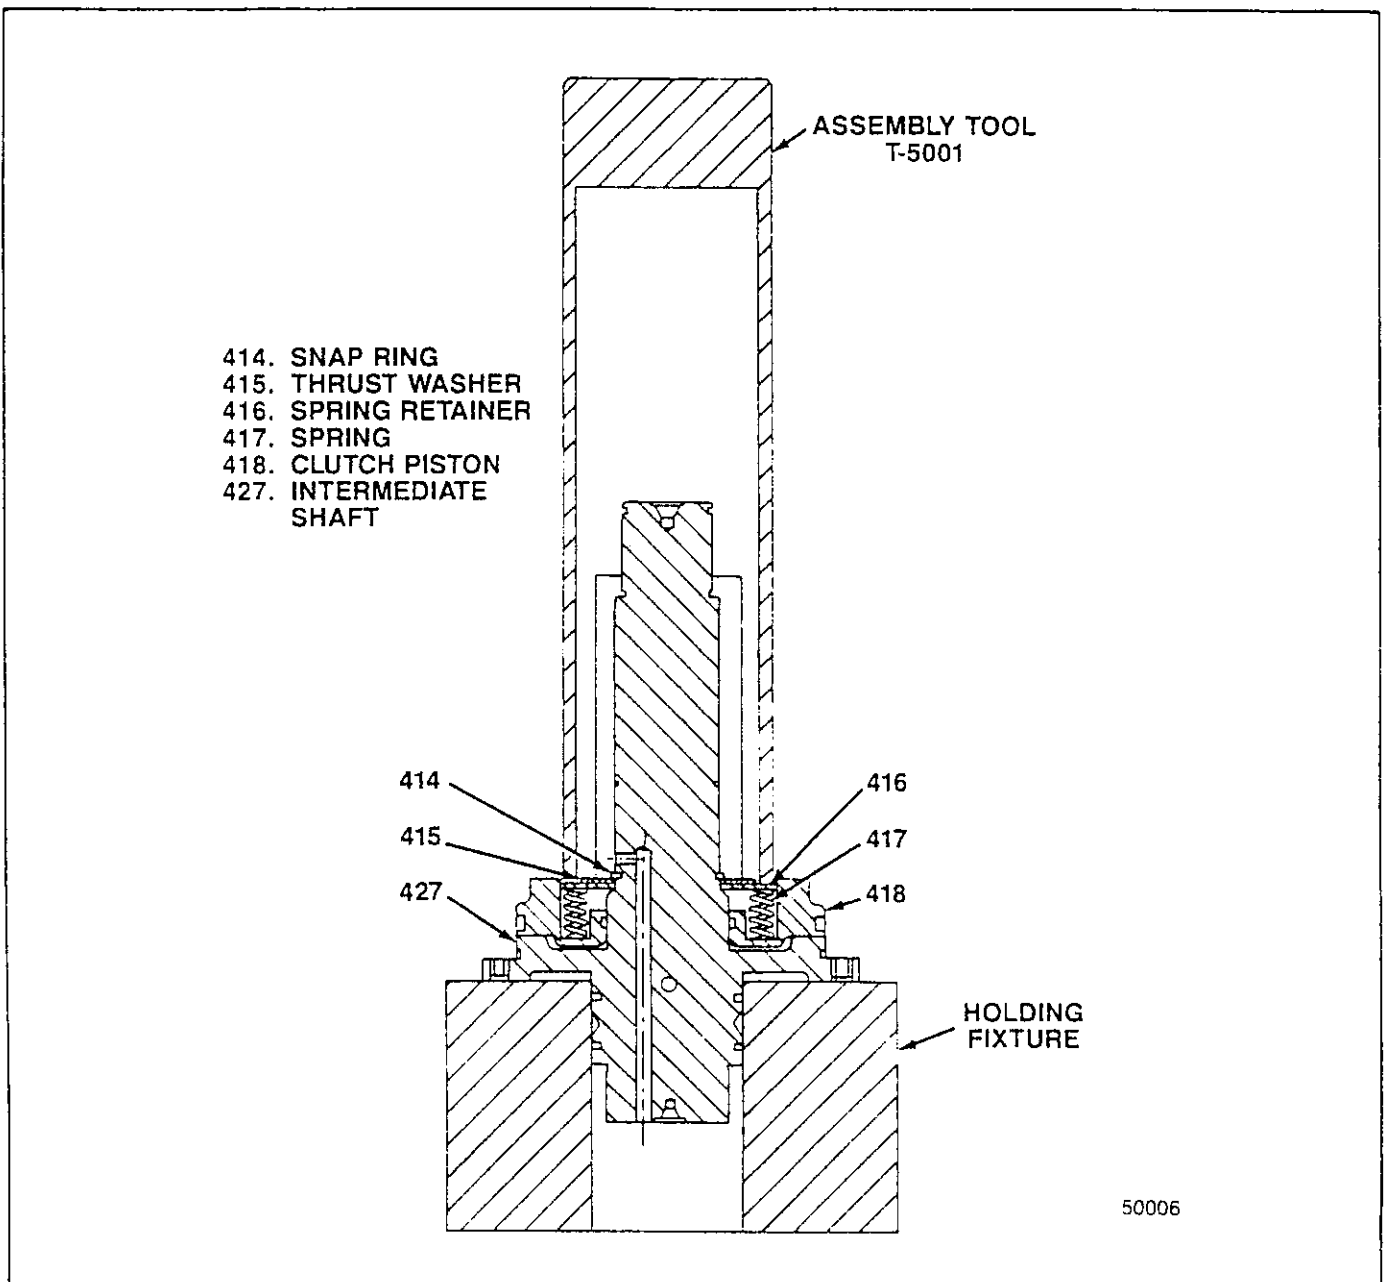

Figure 5-2. Installing Snap Ring
3. Install clutch piston (418) on intermediate shaft (427) with sixteen spring holes facing away from shaft flange. Seat piston against shaft flange.
4. Support intermediate shaft with piston, o-rings and seal rings (418 through 427) in suitable holding fixture (see figure 5-2) in arbor press.
5. Install sixteen springs (417) in holes in clutch piston (418). Install spring retainer (416) and thrust washer (415). Expand snap ring (414) and slide onto shaft up against thrust washer.
6. Using assembly tool T-5001, press down on spring retainer (416) to compress springs (417) and provide
access to shaft groove for snap ring (414) (see figure 5-2). Install snap ring in shaft groove. Remove shaft assembly, holding fixture and assembly tool from arbor press. Remove assembly tool from shaft assembly.
7. Install clutch gear cylinder (413) over clutch piston (418) and onto intermediate shaft (427). Align bolt holes and install six lock plates (412) and twelve bolts (411). Torque bolts to 6-8 lb-ft (8-11 Nm) and so that bolt head flats are aligned with lock plate tabs. Bend up lock plate tabs against bolt head flats.